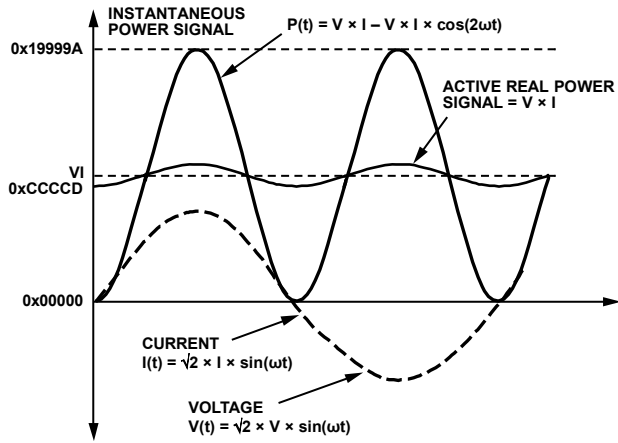

Figure 64. Active Power Calculation
Note that the active power is equal to the dc component of the instantaneous power signal, $P(t)$, in Equation 9, that is, VI . This is the relationship used to calculate active power in the ADE5166/ADE5169/ADE5566/ADE5569. The instantaneous power signal, $P(t)$, is generated by multiplying the current and voltage signals. The dc component of the instantaneous power signal is then extracted by LPF2 (low-pass filter) to obtain the active power information (see Figure 64).
As mentioned in the Active Energy Calculation section, the discrete time sample period (T) for the accumulation register is 1.22 μs (5/MCLK). With full-scale sinusoidal signals on the analog inputs and the WGAIN register (Address 0x1D) set to 0x000, the average word value from each LPF2 is 0xCCCCD (see Figure 64). The maximum positive value that can be stored in the internal 49-bit register is 2⁴⁸ (or 0xFFFF FFFF FFFF) before it overflows. The integration time under these conditions when WDIV = 0 is calculated in the following equation: